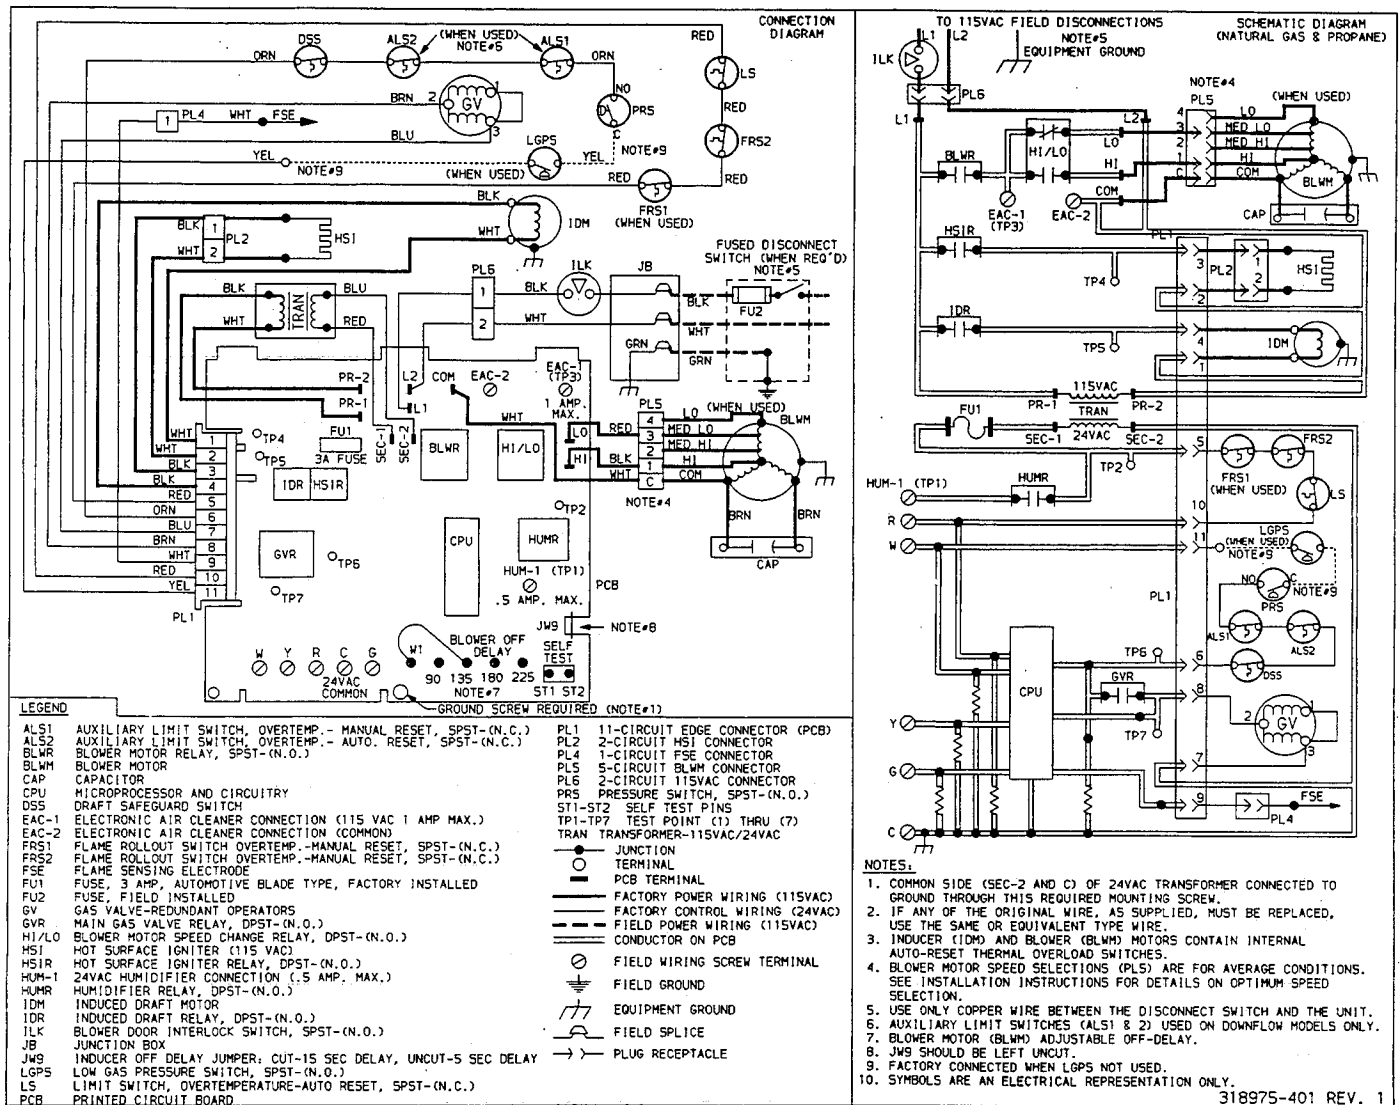

Fig. 13—Unit Wiring Diagram
**SEQUENCE OF OPERATION** — Using the schematic diagram shown in Fig. 13, follow the sequence of operation through the different modes and follow the wiring diagram very carefully.